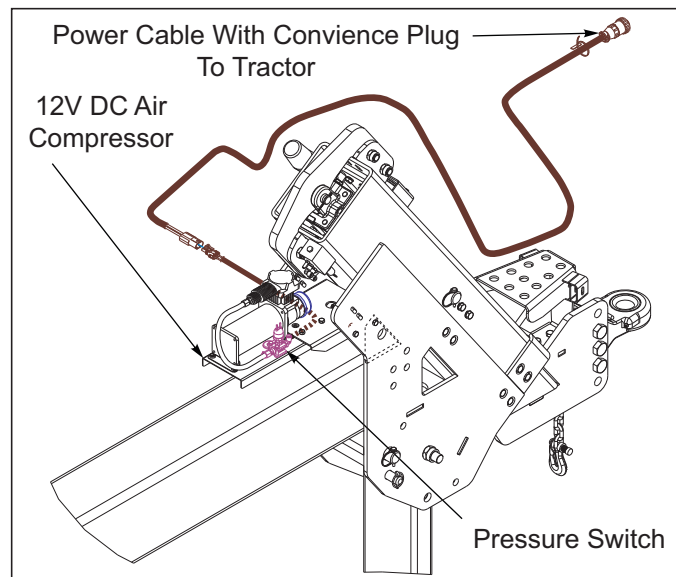

Figure 4-8: Air Compressor Pressure Switch
3. The drill compressor will operate much like a regular air compressor. Plug the power cable into the tractor and turn the compressor switch on. The compressor will charge the entire system and fill the main air tank in the center opener tool bar. A pressure switch **See Figure 4-8** will automatically turn the compressor off when the system has reached full pressure. Leave the compressor on while planting. This will ensure the air system is fully charged.